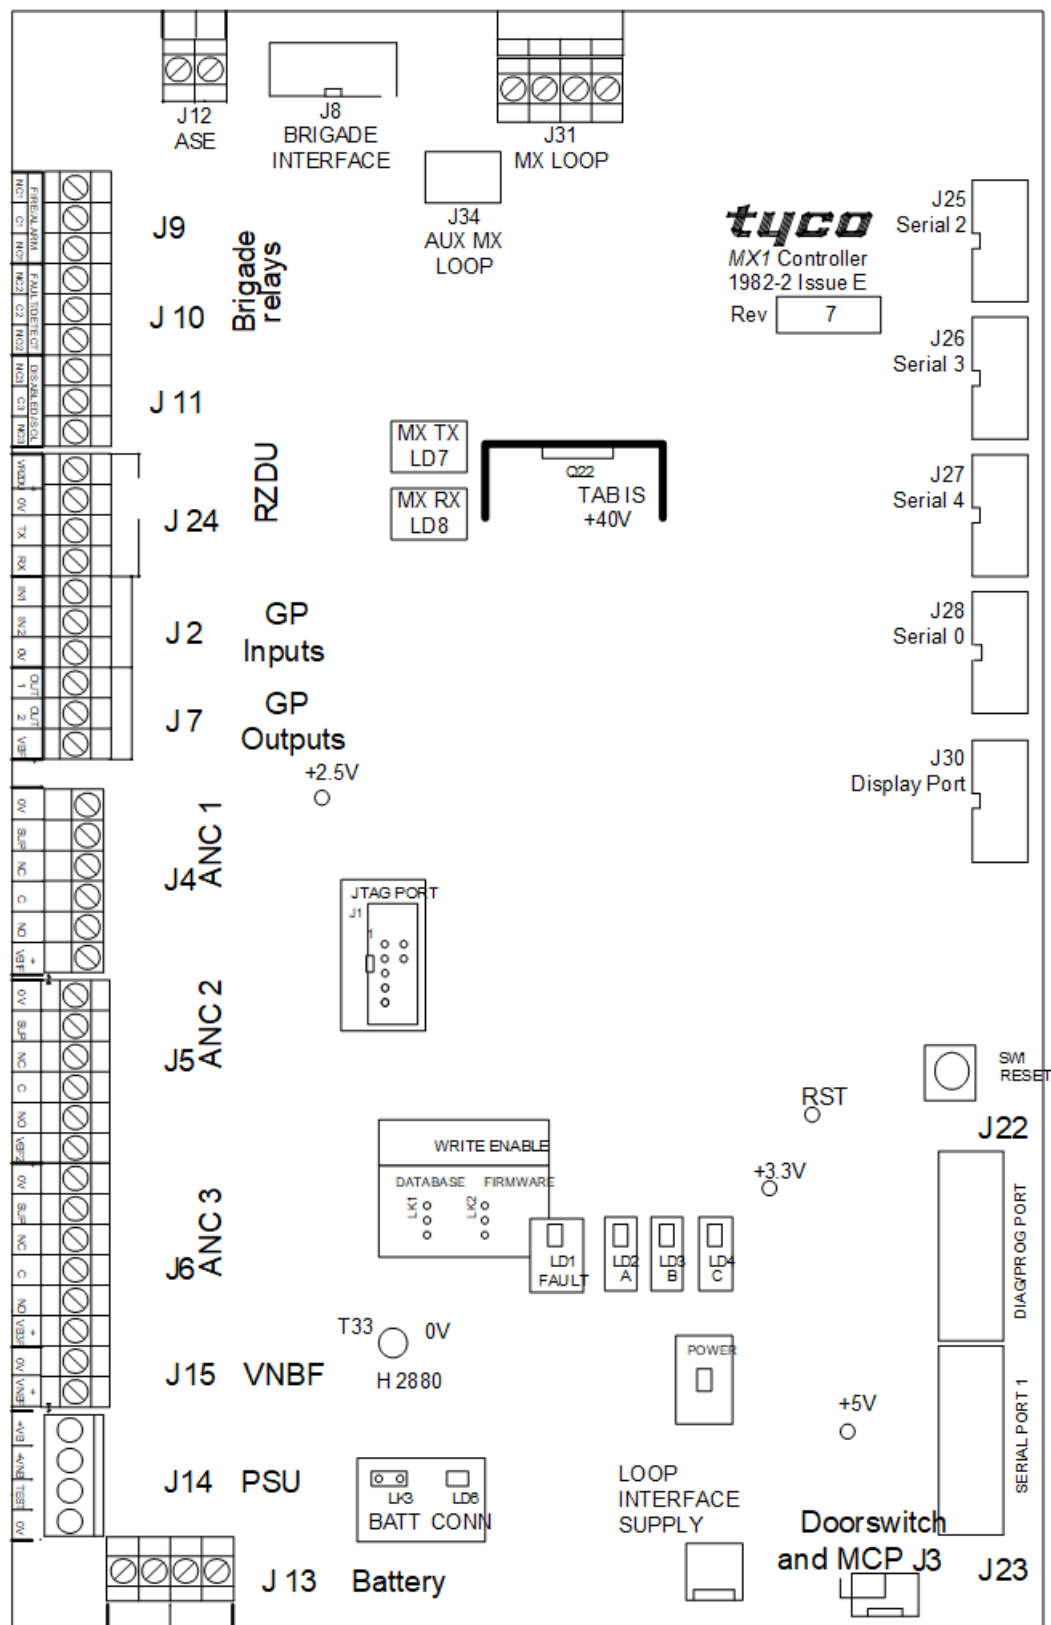

Figure 7-2 – Outline of PA1081 MX1 Controller PCB
3. Disconnect the field wiring from the screw terminals on the left and top edges of the controller. It may be helpful to label the field wiring with terminal numbers/names, or copy or print Figure 7-2 and record field wiring details on this copy, to assist in reconnecting the field wiring.
Controller PCB test points and corresponding test voltages are indicated on the PCB overlay (refer Figure 7-2). Under normal conditions these voltages fall within the ranges listed in the following table. Readings outside this limit indicate a fault in the controller board. There is no adjustment or field repair possible, other than replacing the controller.